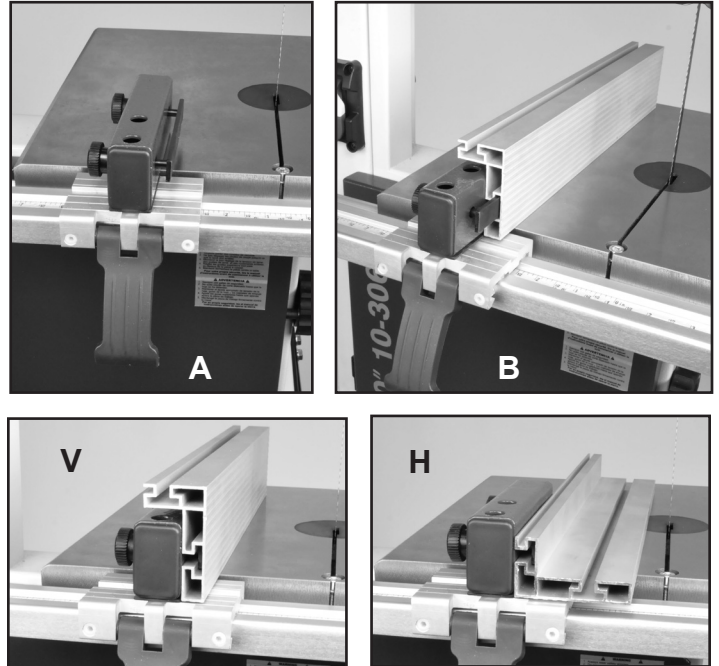

FIGURE 6
1. Install the Fence Carrier Assembly (#99-111) onto the fence's Guide Rail. The Carrier's front, Lever Handle (#101) should be lifted up, released, to allow the Carrier (#100) to fit onto the top of the guide rail. Once in place, move the carrier's front lever handle down to lock the carrier in position on the guide rail. FIG. 6 A.
2. The Fence (#106) attaches to the carrier by sliding it onto the steel Locking Frame Bar (#105). FIG. 6 B. There are two 'T' slots in the fence that the bar will slide into. FIG. 6 V & H.